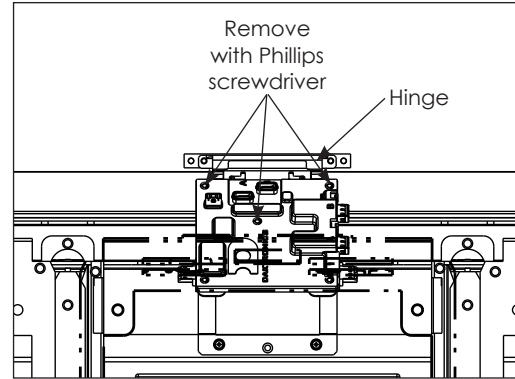

Figure 63: Remove PLR
4. Use a Phillips screwdriver to remove the three screws holding the PLR to the plate or remove the hinge, plate, and PLR together by rotating the hinge up and unhooking the spring-loaded hinge pins. Refer to **Figure 63**.